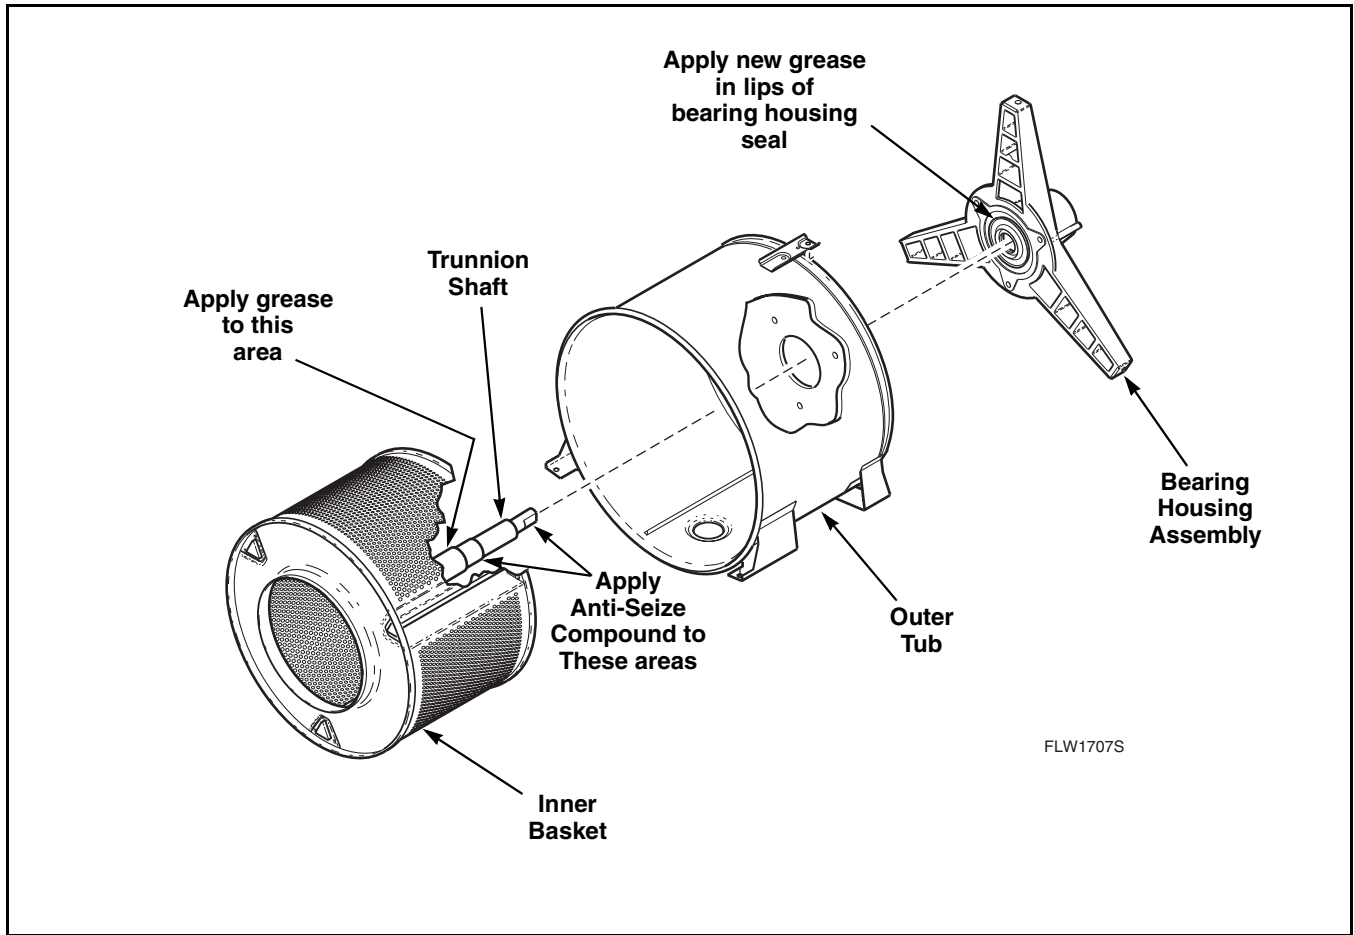

Figure 42
- a. Apply No. 27604P Anti-Seize Compound to the area of the trunnion shaft that will be contacting the front and rear bearings. Refer to *Figure 42*.
- b. Apply a film of grease to area of shaft that will be contacting the bearing housing seal. Refer to *Figure 42*. Make sure seal lips also are packed with grease. Refer to *Figure 42*.